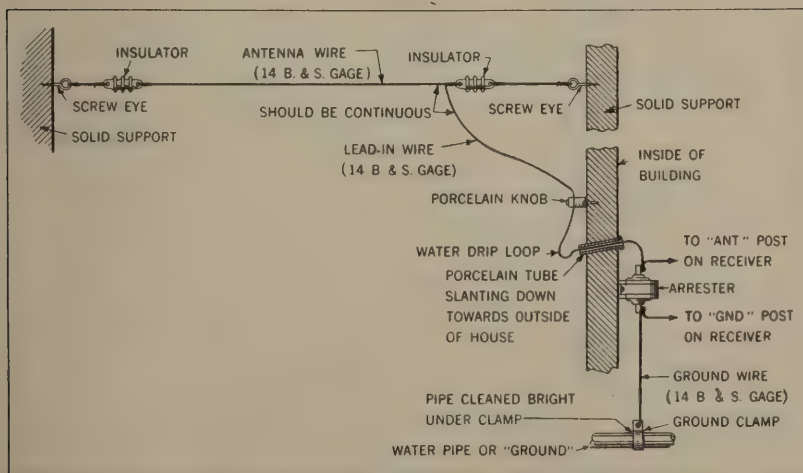

Fig. 39—Outdoor Antenna on rigid supports
The installation of an outdoor antenna, mounted on rigid supports, can proceed in the following order and as shown in Fig. 39.
- (b) Now cut two short pieces (about 3 feet long) from the end of the coil of antenna wire for fastening the strain insulators to the screw eye supports. Secure one end of each piece of this wire to an insulator by passing it through the hole or eye in the insulator and then twisting the wire tightly around itself for five or six turns, as shown in Fig. 39. The other end of each of these wires is inserted through the holes in the screw eyes and twisted tightly around itself for five or six turns, thus making the insulators secure to the supports.
- (h) The protector is best located inside the building, immediately below the inner end of the porcelain tube, as shown in Fig. 39, so that the lead-in wire can be fastened directly to the top binding post of the arrester. The "National Electrical Code" requires that the protector "shall not be placed in the immediate vicinity of easily ignitable stuff, or where exposed to inflammable gases or dust or flyings of combustible materials."
- (k) A second piece of the No. 16 B. & S. gauge rubber covered and braided copper wire should be used to connect the ground (GND) binding post of radio receiver with the binding post of the protector to which the protector ground wire is fastened, as shown in Fig. 39. This second wire should be kept separated from the first or antenna connecting wire by a distance of several inches for the entire length from the receiving set to protector. If a cold water pipe or other grounded metal work is close to the receiving set, it is advisable to run the ground wire by this shorter route to ground, as shown in Fig. 40 rather than by way of the protector ground wire.
The use of a common ground connection for the radio receiver and the arrester, as shown in Figs. 39 and 41, is not objectionable, provided a shorter and more convenient connection to a good ground is not available as illustrated in Fig. 40.